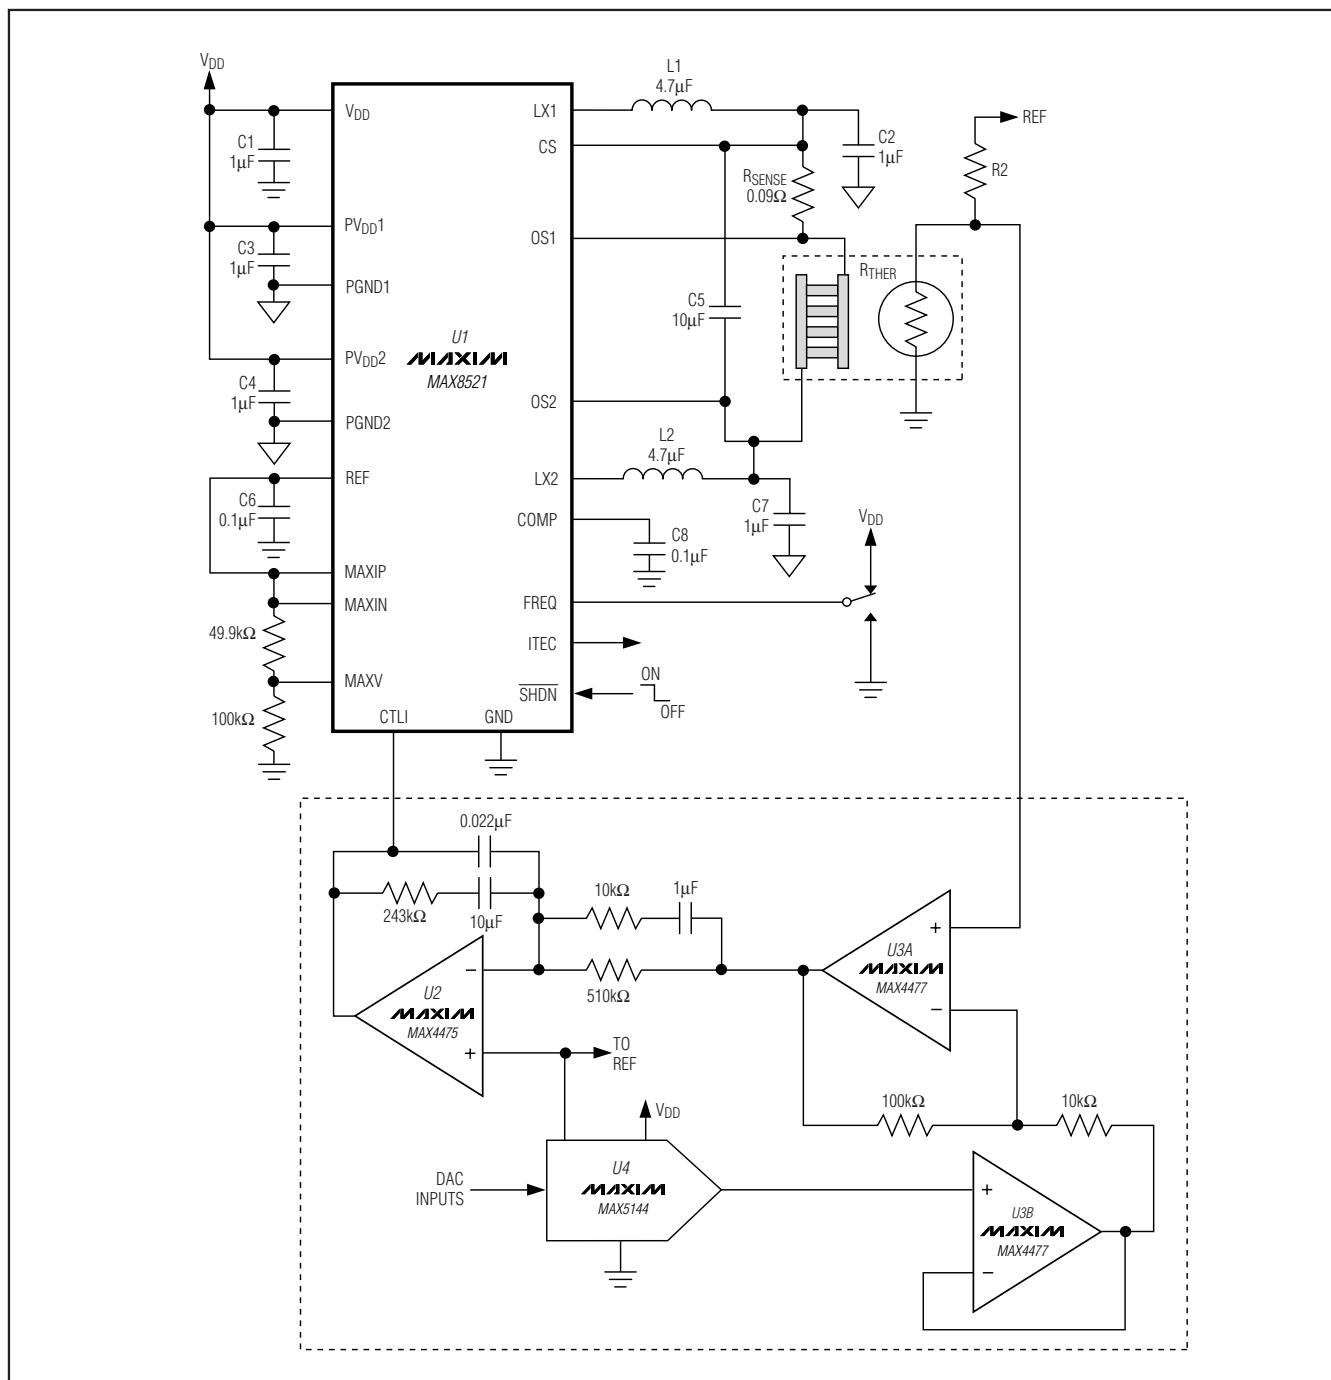

Figure 1. MAX8521 Typical Application Circuit
($V_{DD} = 5V$, circuit of Figure 1, $T_A = +25^\circ C$ unless otherwise noted)
(V_{DD} = 5V, circuit of Figure 1, T_A = +25°C unless otherwise noted)
The MAX8520/MAX8521 TEC drivers consist of two switching buck regulators that operate together to directly control the TEC current. This configuration creates a differential voltage across the TEC, allowing bi-directional TEC current for controlled cooling and heating. Controlled cooling and heating allow accurate TEC temperature control to within 0.01°C. The voltage at CTLI directly sets the TEC current. An external thermal-control loop is typically used to drive CTLI. Figures 1 and 2 show examples of the thermal-control-loop circuit.
Table 1. TEC Connection for Figure 1
The MAX8520/MAX8521 include an on-chip voltage reference. The 1.50V reference is accurate to 1% over temperature. Bypass REF with 0.1μF to GND. REF can be used to bias an external thermistor for temperature sensing as shown in Figures 1 and 2.
The common-mode filter capacitors (C2 and C7 of Figure 1) are used as filter capacitors to ground for each output. The output ripple voltage depends on the capacitance, the ESR of these capacitors, and the inductor ripple current. Ceramic capacitors are recommended for their low ESR and impedance at high frequency.
The differential-mode filter capacitor (C5 in Figure 1) is used to bypass differential ripple current through the TEC as the result of unequal duty cycle of each output. This happens when the TEC current is not at zero. As TEC current increases from zero, both outputs move away from the 50% duty-cycle point complementarily. The common-mode ripple decreases, but the differential ripple does not cancel perfectly, and there will be a resulting differential ripple. The maximum value happens when one output is at 75% duty cycle and the other is at 25% duty cycle. At this operating point, the differential ripple is equal to 1/2 of the maximum common-mode ripple. The TEC ripple current determines the TEC performance, because the maximum temperature differential that can be created between the terminals of the TEC depends on the ratio of ripple current and DC current. The lower the ripple current, the closer to the ideal maximum. The differential-mode capacitor provides a low-impedance path for the ripple current to flow, so that the TEC ripple current is greatly reduced. The TEC ripple current then can be calculated as follows:
There are numerous ways to implement the thermal loop. Figures 1 and 2 show designs that employ precision op amps, along with a DAC or potentiometer to set the control temperature. The loop can also be implemented digitally, using a precision A/D to read the thermistor or other temperature sensor, a microcontroller to implement the control algorithm, and a DAC (or filtered-PWM signal) to send the appropriate signal to the MAX8520/MAX8521 CTLI input. Regardless of the form taken by the thermal-control circuitry, all designs are similar in that they read temperature, compare it to a set-point signal, and then send an error-correcting signal to the MAX8520/MAX8521 that moves the temperature in the appropriate direction.
6) To ensure high DC-loop gain and minimum loop error, keep the board layout adjacent to the negative input pin of the integrator (U2 in Figure1) clean and free of moisture. Any contamination or leakage current into this node can act to lower the DC gain of the integrator which can degrade the accuracy of the thermal loop. If space is available, it can also be helpful to surround the negative input node of the integrator with a grounded guard ring.